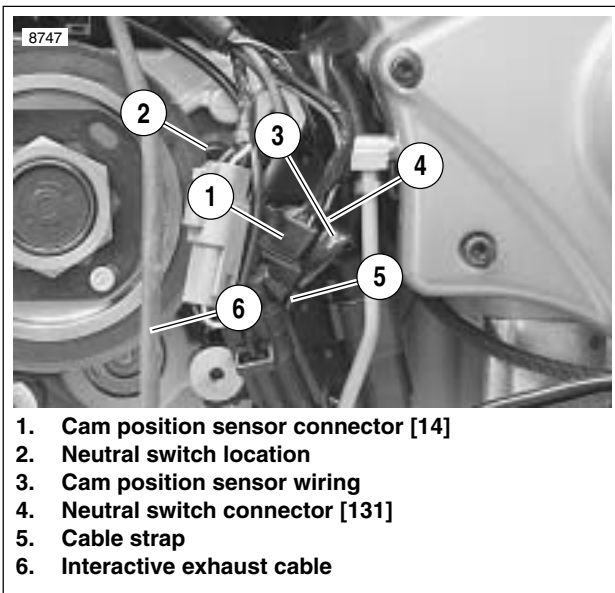

Figure 7-96. Neutral Switch Wiring
- See Figure 7-96. Form a loop (6) as shown using neutral switch wiring.
- Use cable strap (5) to secure cam position sensor (1), cam position sensor wiring (3), neutral switch connector (4) and neutral switch connector wiring (6).